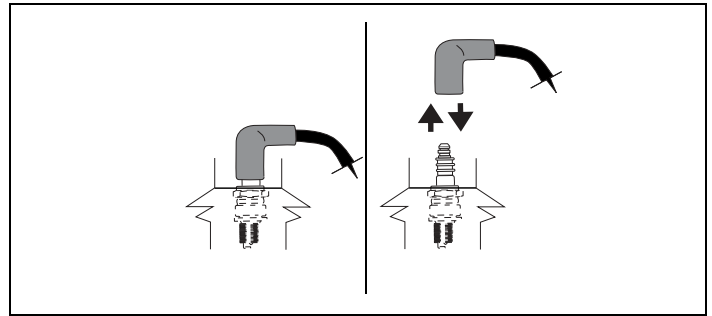

Figure 25. Disconnecting/Connecting Spark Plug
1. Carefully disconnect spark plug wire and keep it away from spark plug. See Figures 25 and 26.